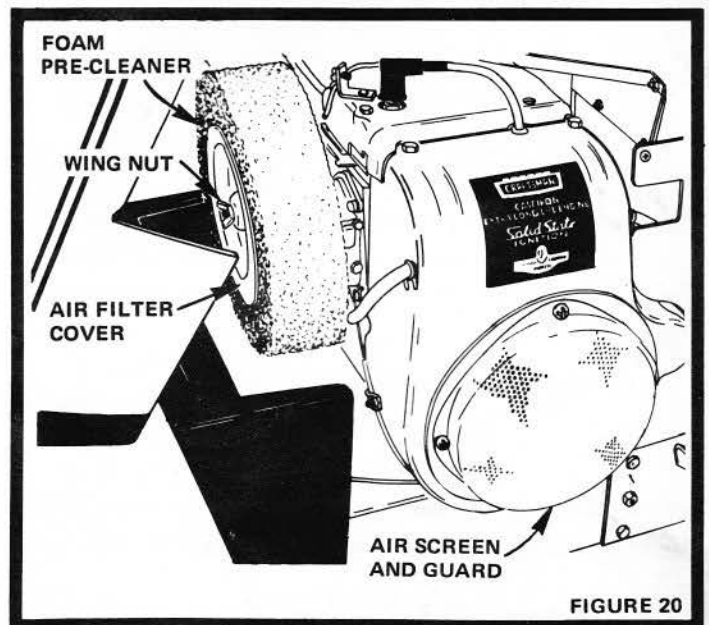

FIGURE 20
Air Screen and Guard (Fig. 20) must be kept free of dirt and chaff to prevent Engine damage from overheating.
- a. Unscrew Wing Nut (Fig. 20) to remove Air Filter Cover Paper Air Filter Element and Foam Pre-Cleaner.
Air Screen and Guard (Fig. 20) must allow free-flow of air to prevent Engine damage from overheating. Remove Air Screen and Guard and clean with a wire brush to remove dirt and chaff and stubborn dried gum and fibers.